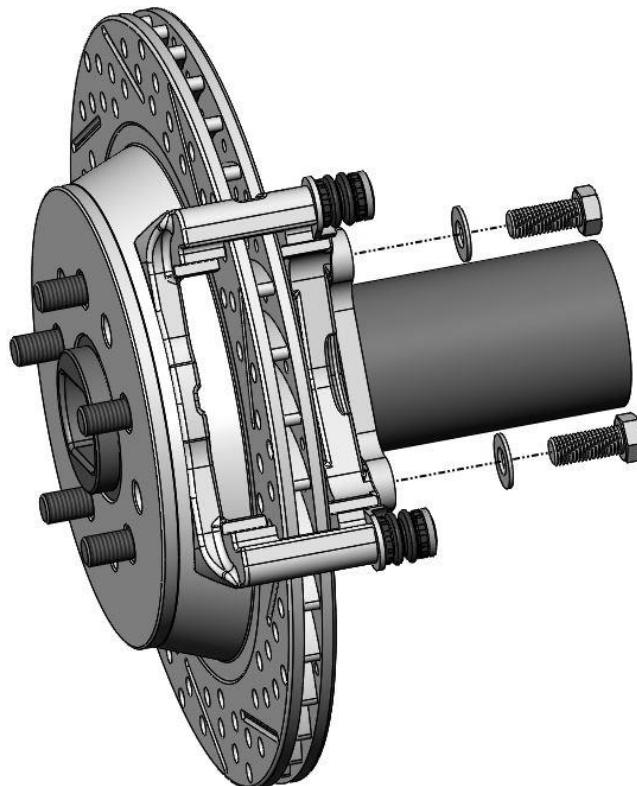

Figure 5 – Caliper Anchor Installation
9. Remove the Caliper Anchor bracket from the caliper by removing the M8-1.25 x 21mm Caliper Mounting Bolts from the cast-iron Anchor Bracket. Install the Caliper Anchor Bracket over the rotor. Using the provided M12 Flat Washers and M12-1.75 x 35mm Socket Head Cap Screws, install and torque the bolts to 80 lb/ft. Refer to Figure 5 below for reference on installing the caliper anchor and location of the spacer.